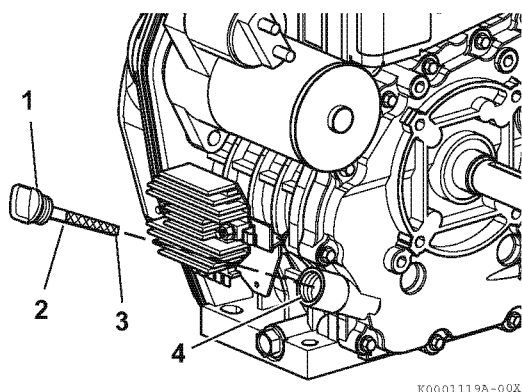
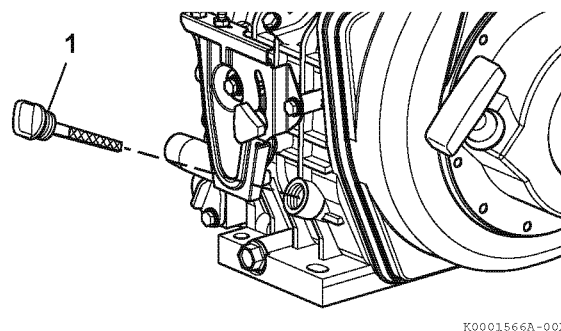

Figure 4-5
Figure 4-6
2. Remove oil cap/dipstick (1, **Figure 4-5**) (1, **Figure 4-6**) from either location and wipe with clean cloth.
4. Remove oil cap/dipstick. The oil level should be between upper (2, **Figure 4-5**) and lower (3, **Figure 4-5**) lines on the oil cap/dipstick.
2. Remove oil cap/dipstick (1, **Figure 4-5**) (1, **Figure 4-6**).
3. Add indicated amount of engine oil at either of the engine oil filler ports (4, **Figure 4-6**).